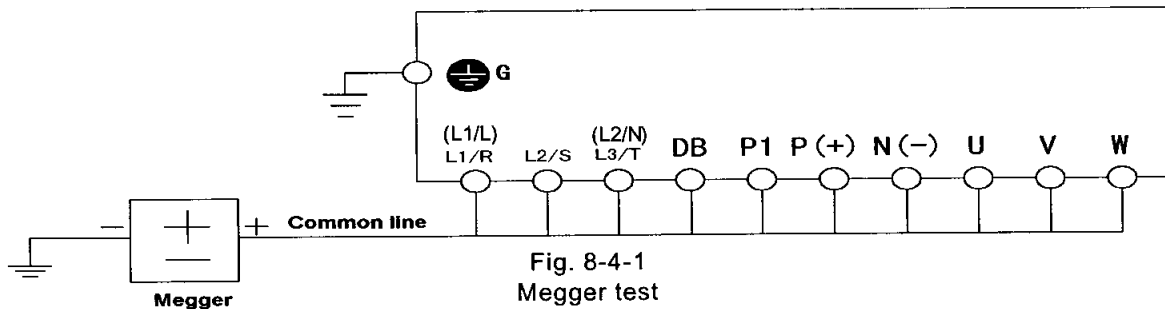

Fig. 8-4-1
(1) Megger test of main circuit
- c) Connect the main circuit terminals with a common cable as shown in Fig. 8-4-1.